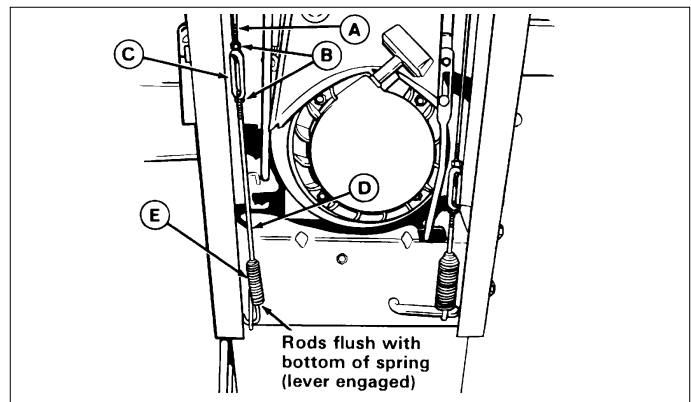

Figure 20. Drive Tension Adjustment
1. With the drive lever engaged, bottom end of lower rod (D, Figure 20) should be flush with bottom of spring (E, Figure 20).
2. To adjust, loosen the two nuts, (B, Figure 20) and hold the lower rod to keep from rotating. Turn the turnbuckle (C, Figure 20) toward the right to lower rod or toward the left to raise rod.